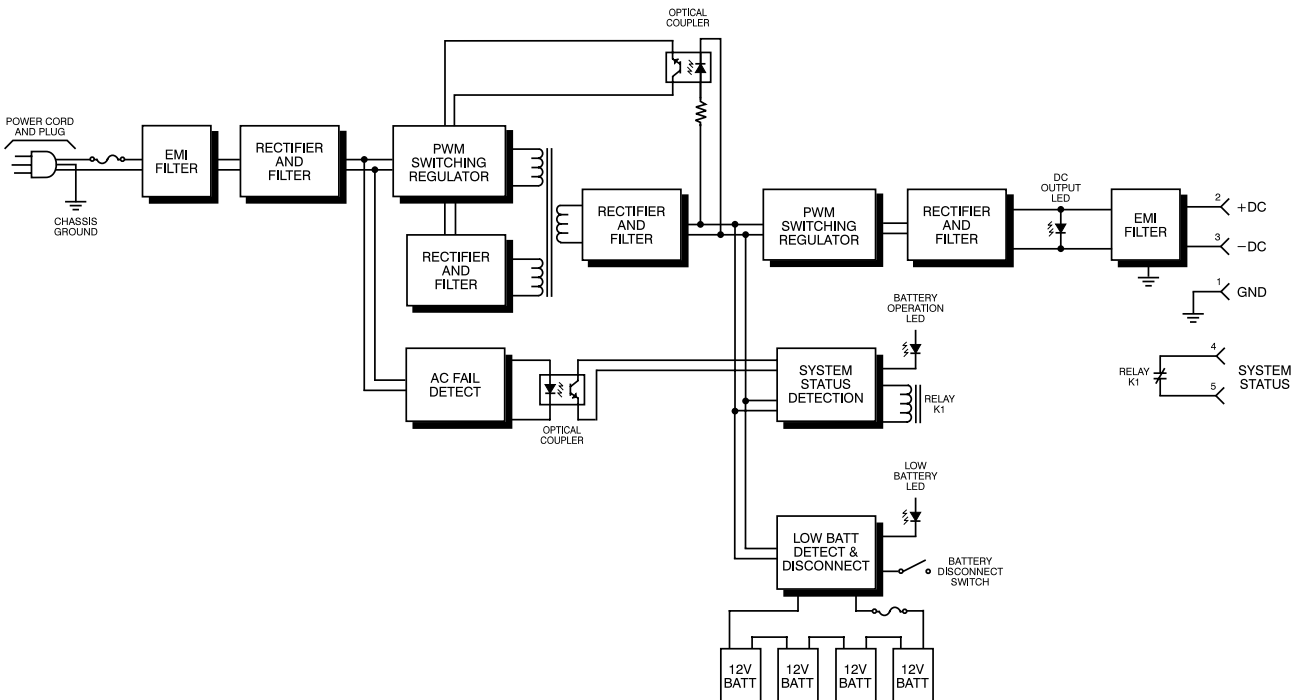

Figure 3 Model 733 block diagram.
5.1 GENERAL This circuit description is intended to familiarize you with the Model 733 for engineering and applications use. Repairs to the unit should not be attempted as they will expose you to dangerous voltage levels. Please refer to the block diagram, Figure 3, when reading this technical description.